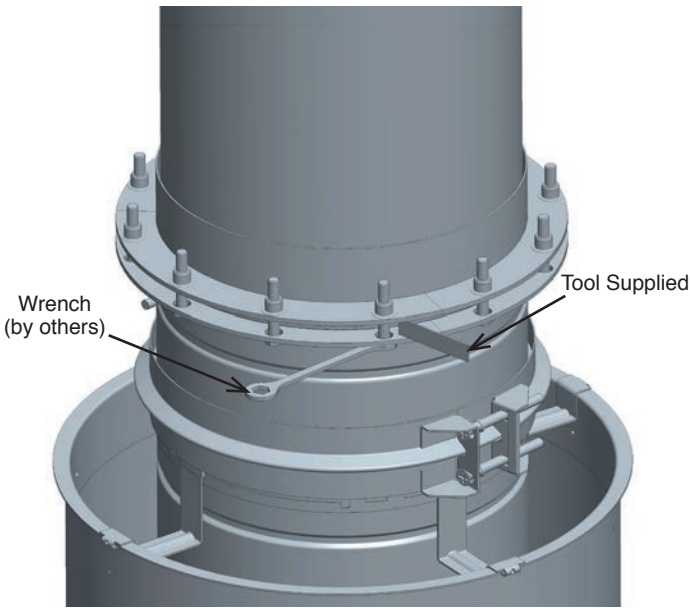

Figure 18 - Step 5 of the Adjustable Length
There is also a supplied tool with this assembly. This tool works as a spacer when tighten the bolts of the containing rings on the graphite gasket. See Figure 18.
5. Tighten all the bolts of the containing ring. For each bolt, use the supplied tool as a guide between the two containing rings. See **Figure 18**.